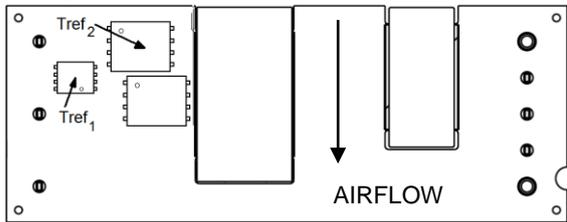

Figure 13. T_{ref} Temperature Measurement Location for Open Frame Module.
To provide protection under certain fault conditions, the unit is equipped with a thermal shutdown circuit. The unit will shutdown if the thermal reference point T_{ref} (Figure 13), exceeds 128°C (typical), but the thermal shutdown is not intended as a guarantee that the unit will survive temperatures beyond its rating. The module can be restarted by cycling the dc input power for at least one second or by toggling the remote on/off signal for at least one second. If the auto-restart option (4) is ordered, the module will automatically restart upon cool-down to a safe temperature.
The thermal reference points, T_{ref1} and T_{ref2} used in the specifications for open frame modules are shown in Figure 13. For reliable operation T_{ref1} should not exceed 122°C and T_{ref2} should not exceed 124°C